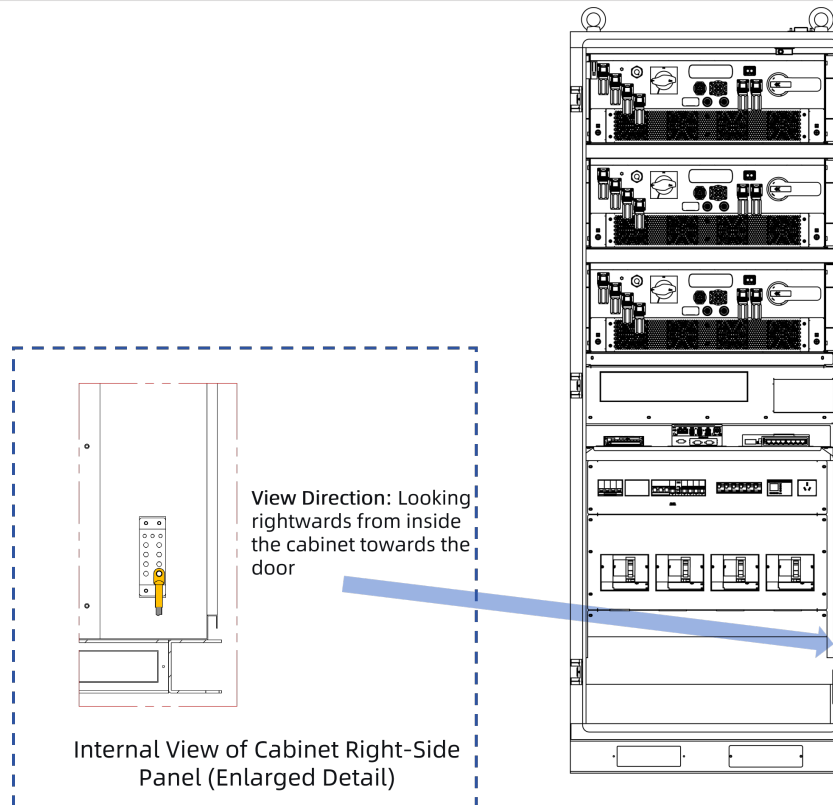

Figure 8-3: Grounding battery cabinet
- c. Connect the grounding terminal to the grounding bar on the cabinet right-side panel with the M10 fastener as shown in Figure 8-3.